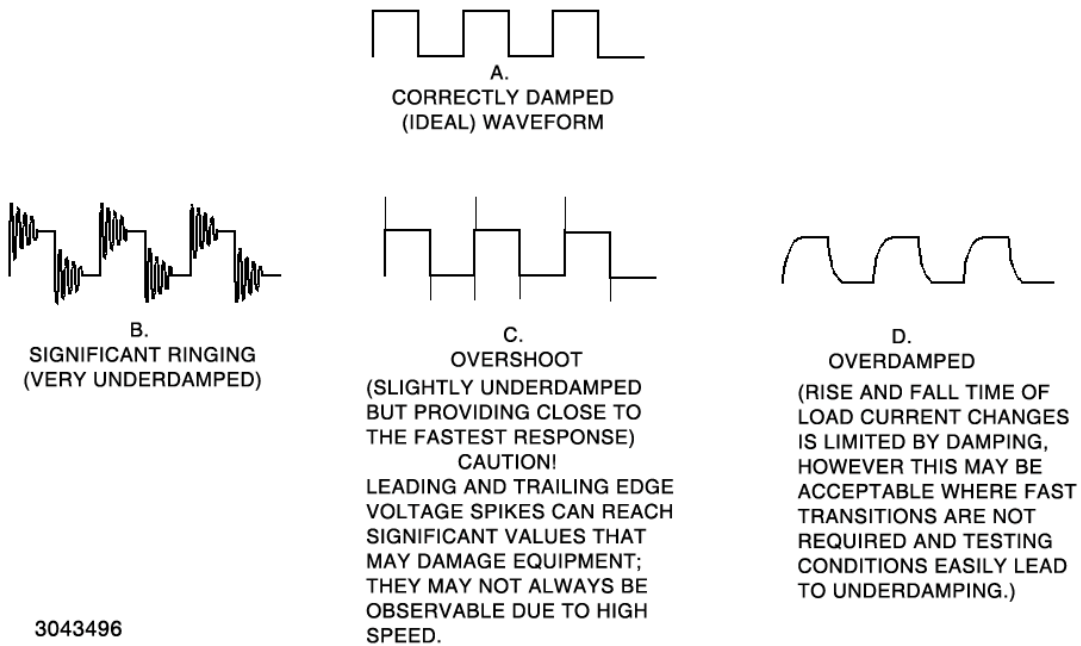

FIGURE 3-6. DAMPING WAVEFORMS
Figure 3-6 shows various waveforms that may appear at the current monitor output (I-Load) when the load is connected to a high current source and the current drawn from the source changes rapidly following a square wave (or pulse) source connected to the E-Load input. Figure 3-6 shows the effects of changing both the System Damping and the Mode Damping. The exact waveforms that will be seen are highly dependent on the nature of the source, the inter-connecting cables and the various damping setting.
Figure 3-6 shows sample waveforms of a properly damped EL (A) and an improperly damped EL (B, C, D). The goal is to attain a waveform looking like A. This may not be possible and the best that can be accomplished is C with the smallest overshoots. The waveform can be